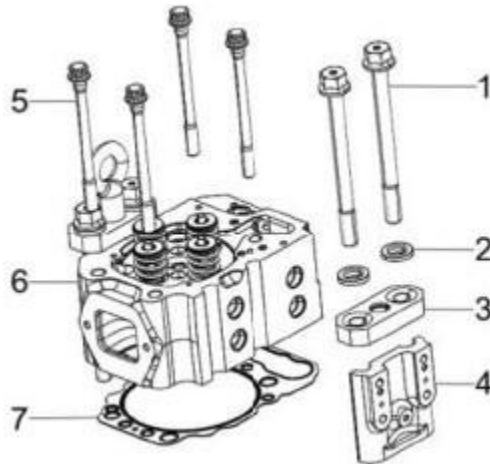

Figure 73. Cylinder Head Assembly
- Carefully clean both the combustion surface of the cylinder head and the top surface of the cylinder block. Then place a new cylinder head gasket (Figure 73, Item 7) on the cylinder block.
- Position the cylinder head (Figure 73, Item 6) on the cylinder head gasket.
- Lightly oil the threads and shoulder of the cylinder head main bolts (Figure 73, Item 5) and cylinder head secondary bolts (Figure 73, Item 1). Lightly oil the clamping block (Figure 73, Item 3) and end plate (Figure 73, Item 4) and insert.